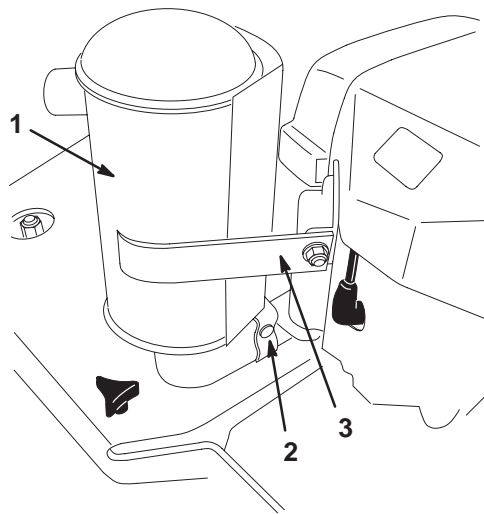

Figure 14
- Loosen the clamp (Fig. 14).
2. Rotate the muffler forward into the position shown in Figure 14.
3. Secure the muffler bracket (Fig. 14) to the engine bracket with the hardware provided.